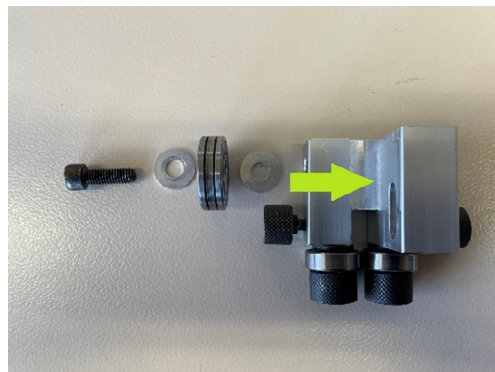

Figure 11
- Mount the M6 x 18 screw, the square nut and two M6 x 18 x 0.8 mm washers supplied with the scrolling bearings, on one of the scroll bearings. (Fig 11)